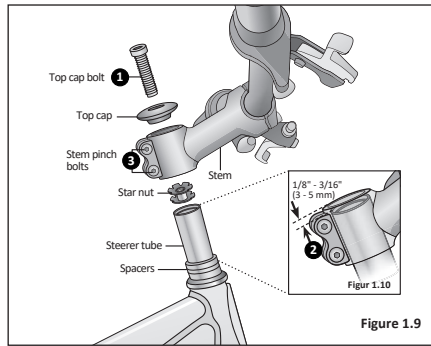

Figure 1.9
**Important :** Do not disassemble the headset or loosen any parts. Be sure the end of the fork is on the ground or being held with your free hand, because once you loosen the top cap the fork assembly may fall out of the frame. **Figure 1.9**